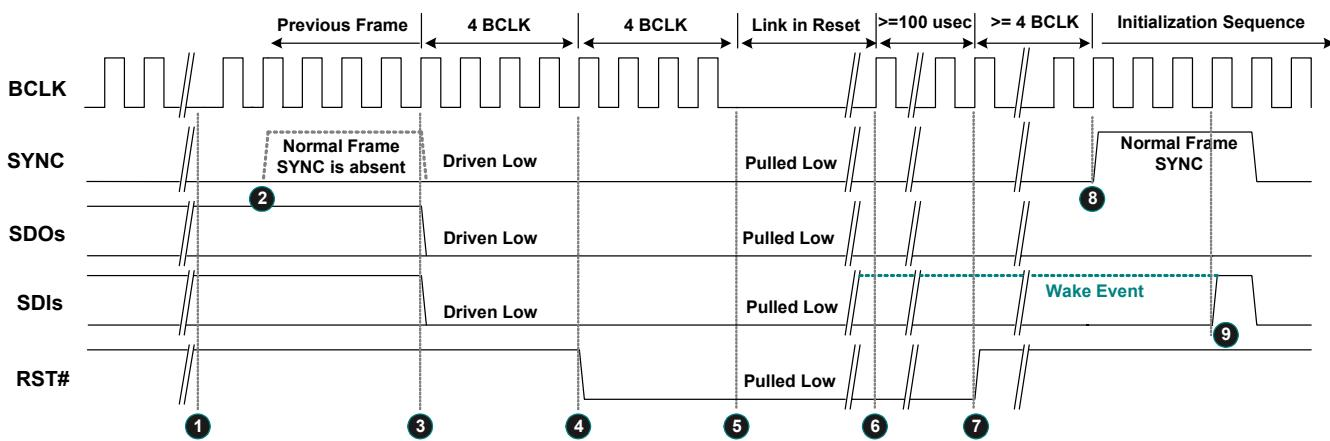

Figure 13. Link Reset Timing
3. Software initiates power management sequences. Figure 13, shows the ‘Link Reset’ timing including the ‘Enter’ sequence (❶~❽) and ‘Exit’ sequence (❾~❿)